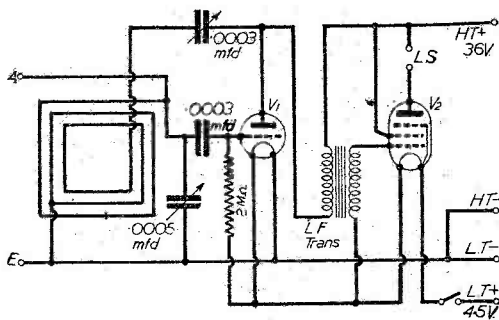

Fig. 1.—The theoretical circuit of the handy all-dry battery set.
**T**HIS receiver was based upon that described by A. Melvill Elliott in the February, 1942, issue of PRACTICAL WIRELESS. (Fig. 1.)